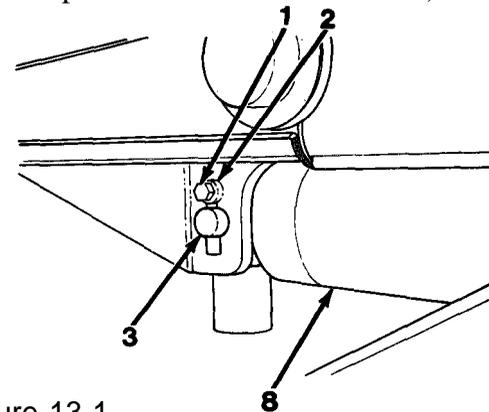

Figure 13-1
7. Close dipstick cap. Start engine and slowly extend boom hoist cylinder (8) rod 2 times to remove air trapped in cylinder. Then extend boom hoist cylinder (8) rod to attachment point and shut engine off.
8. Install pin (3), rod eye (2) and capscrew and lockwasher (1) to secure rod end of boom hoist cylinder (8, Figure 13-1).
9. Remove supports from boom hoist cylinder (8).